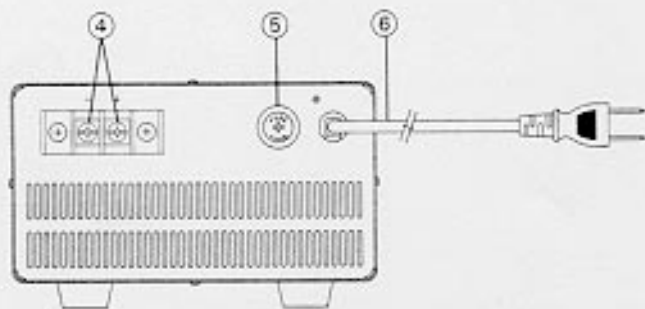

Fig. 4-2. Rear Panel
Fuse Holder is located on rear panel for U.S.A. version as Fig. 4-2. (5).